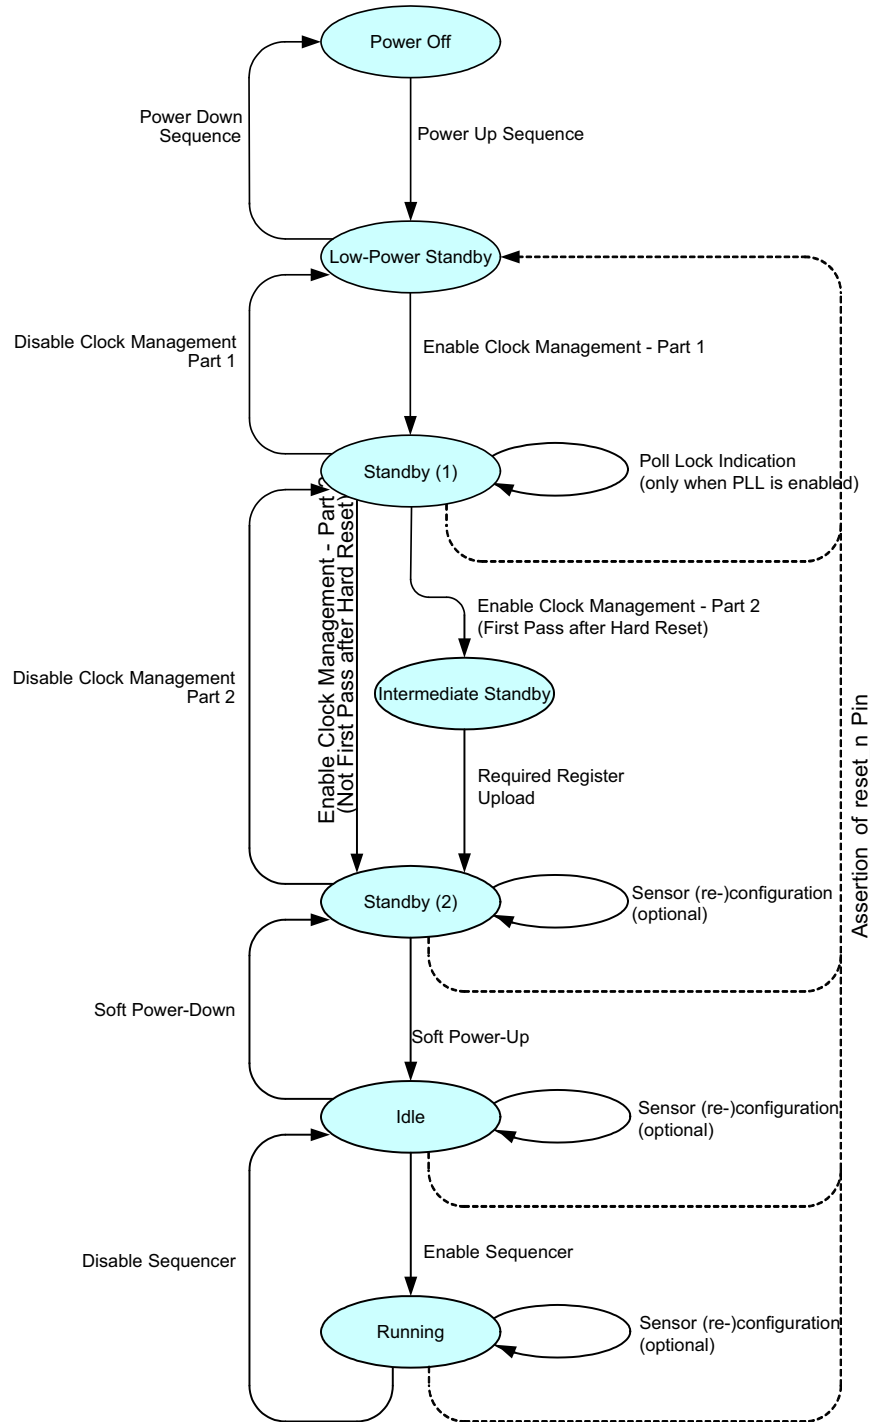

Figure 16. Sensor Operation Flowchart
Figure 16 shows the sensor operation flowchart. The sensor has six different 'states'. Every state is indicated with the oval circle. These states are Power off, Low power standby, Standby (1), Standby (2), Idle, Running.
Check the PLL_lock flag 24[0] by reading the SPI register. When the flag is set, the ‘Enable Clock Management’ action can be continued. When PLL is not used, this step can be bypassed as shown in Figure 16 on page 16.